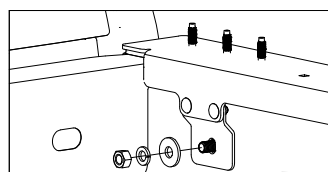

Figure C2: View looking at passenger side bed rail.
2. **Mount bed protectors.** Place the bed protectors back onto the pickup bed rail and pass the 1/2" carriage bolt mounted into the bed into the extension bracket added to each bed protector. Secure the 1/2" carriage bolt with a 1/2" flat washer, lock washer, and finish nut, see Figure C2. Push the bed protectors towards the cab so they are firmly against the front of the bed. Tighten each 1/2" finish nut to 80 ft-lbs.